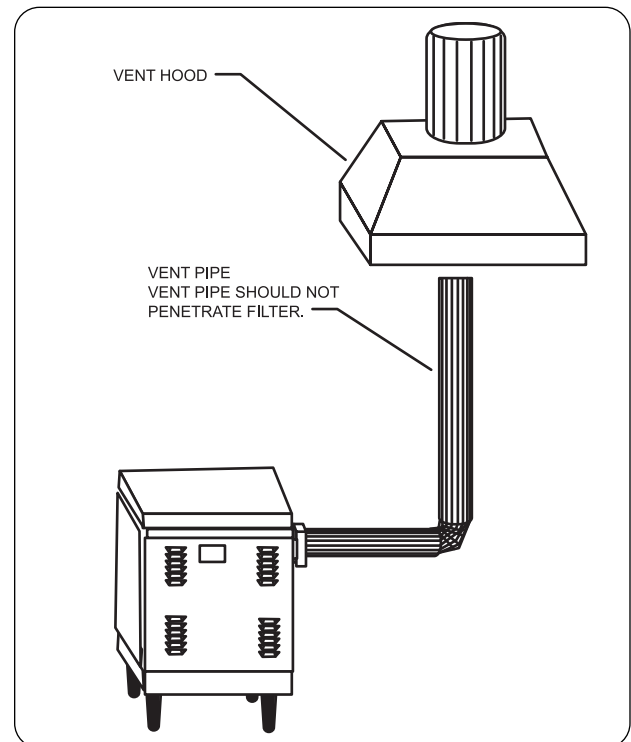

Figure 8. Venting Through Typical Exhaust System.
- a. Conveyed to another area in the kitchen such as under a ventilator or near an exhaust fan (both of which exhaust outdoors). (See Figure 8.)